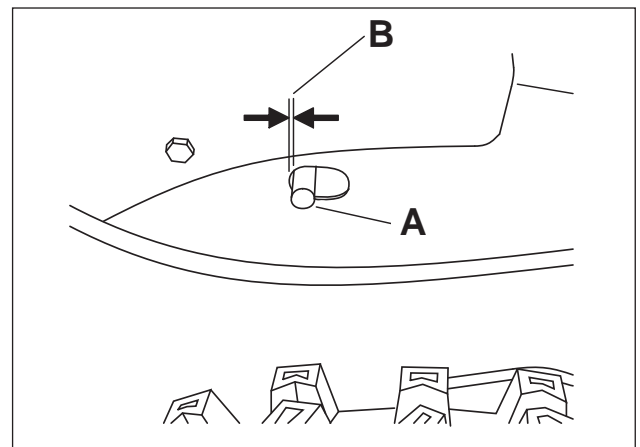

Fig. 004
2. With the traction lever disengaged, check the pin in the elongated slot in the left side of the machine above the tire (Fig. 004). There should be a gap of 1/4" (6 mm) from the front edge of the pin. If adjustment is necessary, see "Adjusting the Traction Cable" (page 2-10).